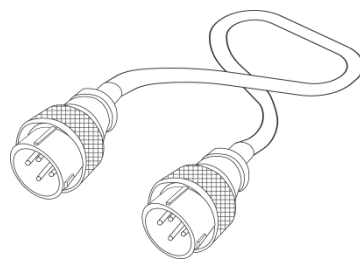

Figure 5-4
- Robot power supply cable (Figure 5-4)